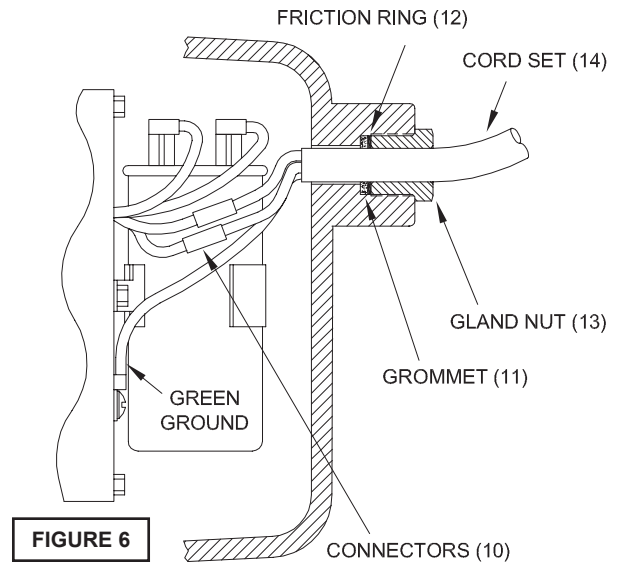

FIGURE 6
Remove volute and impeller as outlined in paragraph F-2.1. Remove screen as outlined in paragraph F-3.1. Remove pipe plug (38) and drain the oil from the pump. Loosen gland nut (13) and slide it back on the cord set (14). Remove hex nuts (22) and lock washers (23) from studs (28) and pull housing end piece (21) from the housing tube (27). Be careful not to damage diaphragm (15) when removing housing end piece (21). Disconnect cord set (14) and check for cracks or damage and replace if required. To check or replace grommet (11), remove friction rings (12) from end piece (21) and remove grommet (11), see FIGURE 6.
Place gland nut (13), one friction ring (12), grommet (11) onto cord and slide cord through housing end piece (21). Make wire connections as outlined in paragraph C-3, FIGURE 2, using terminal connectors (10). Place o-ring (26) into groove on housing end piece (21) and slide end piece (21) into housing tube (27) being careful not to cut or damage o-ring (26). Place pump support (25) onto the lower studs (28) and place lock washers (23) and hex nuts (22) onto studs (28) and tighten. Insert grommet (11), friction ring (12) into housing end piece (21). Apply pipe sealant to gland nut (13) and screw into housing end piece (21). Torque gland nut (13) to 17.5 ft. lbs. to prevent water leakage see FIGURE 6.